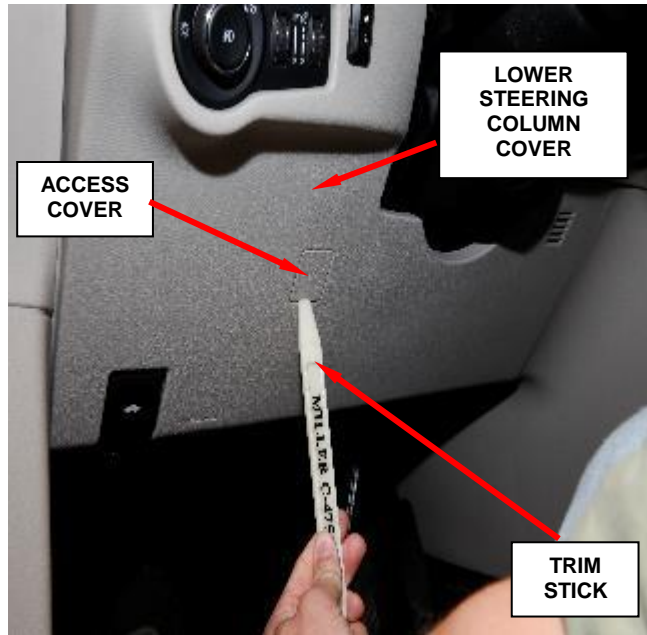

Figure 1 – Manual Park Release Access Cover Location
1. Locate the Manual Park Release access cover (plug) located on the lower left side of the steering column closeout cover (Figure 1).
2. Using a small screwdriver or similar tool, remove the Manual Park Release access cover (plug) (Figure 1).